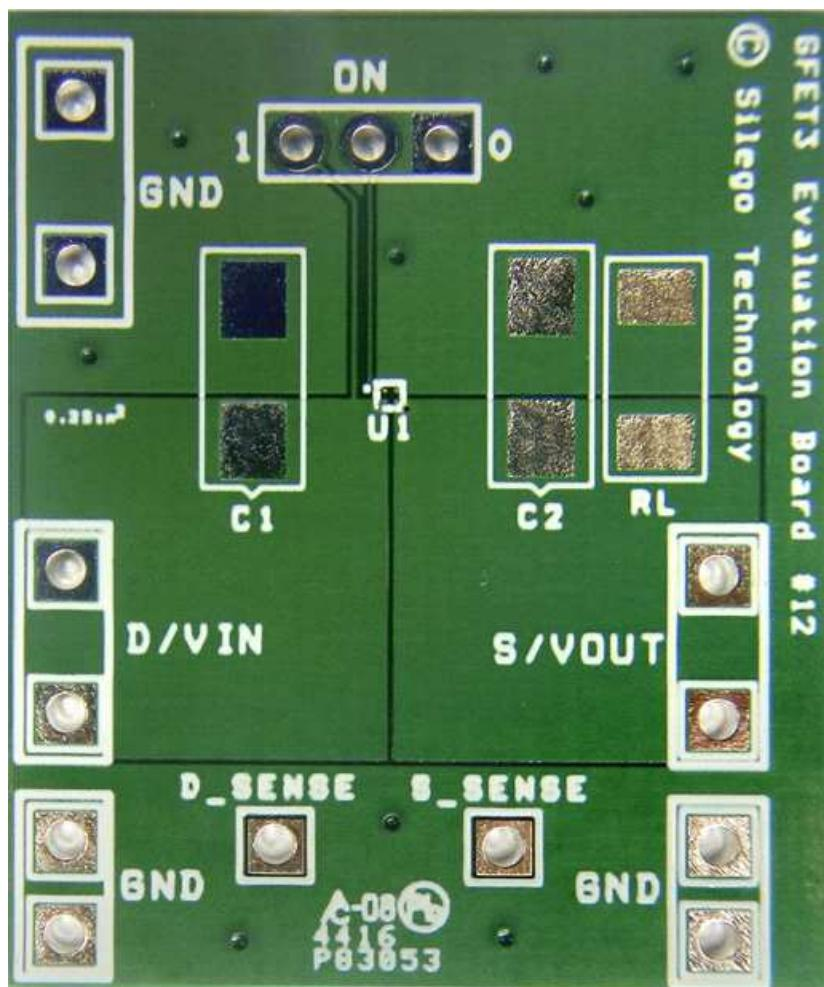

Figure 7. SLG59M1736C Evaluation Board
1. Since the VIN and VOUT pins dissipate most of the heat generated during high-load current operation, it is highly recommended to make power traces as short, direct, and wide as possible. A good practice is to make power traces with absolute minimum widths of 15 mils (0.381 mm) per Ampere. A representative layout, shown in Figure 7, illustrates proper techniques for heat to transfer as efficiently as possible out of the device;
A GreenFET Evaluation Board for SLG59M1736C is designed according to the statements above and is illustrated on Figure 7. Please note that evaluation board has D_Sense and S_Sense pads. They cannot carry high currents and dedicated only for $R_{DS_{ON}}$ evaluation.